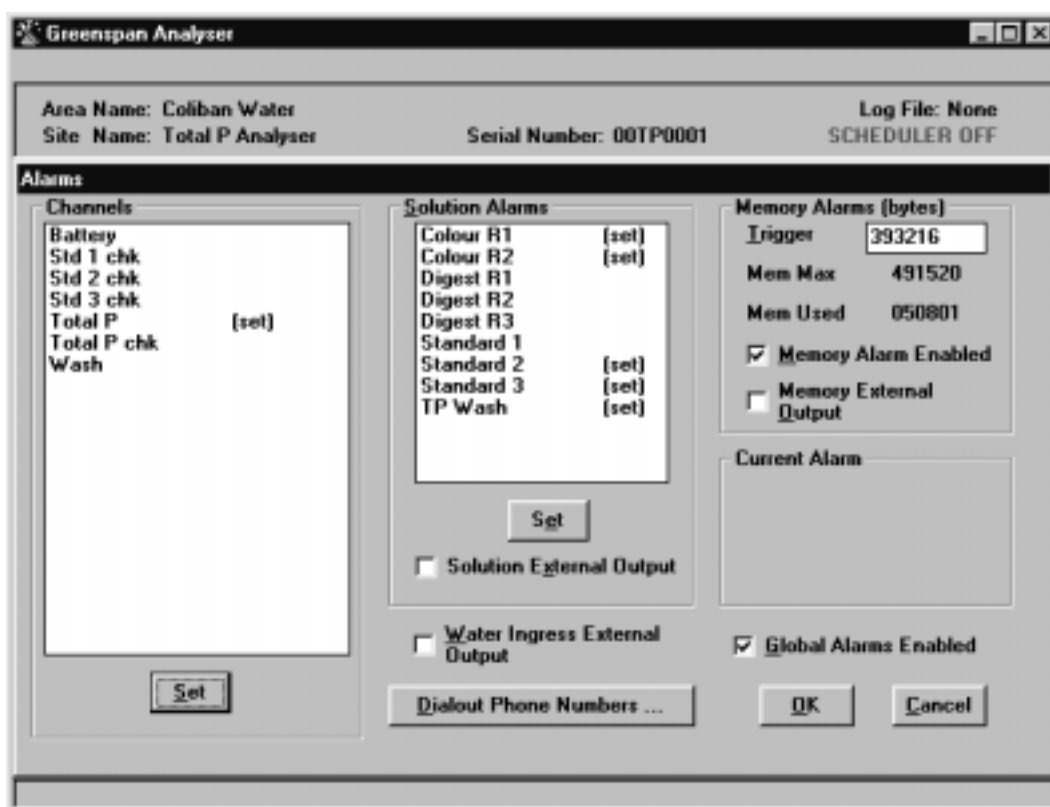

Figure 8.1: The Alarms window
2. From the Setup menu choose *Alarms*. The *Alarms* window is shown in Figure 8.1.